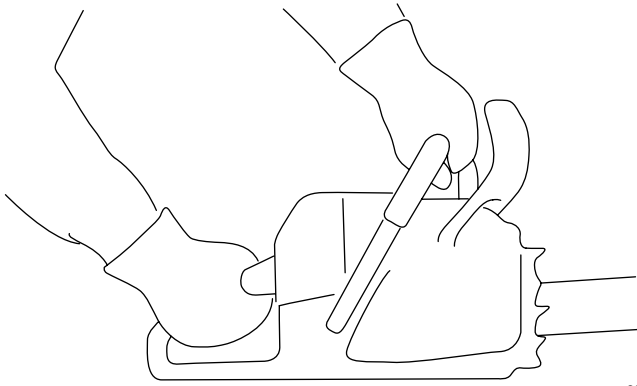

Figure 12
- Grip the chain saw with 2 hands, with your left hand on the front handle and your right hand on the rear handle as shown in Figure 12.
1. Grip the chain saw as shown in Figure 12.
3. Grip the chain saw as shown in (Figure 12).